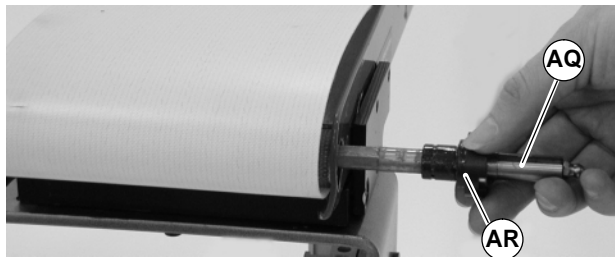

Figure 27
1. Install outboard drive shaft (AQ of Figure 27) and outboard bearing retaining sleeve (AR).